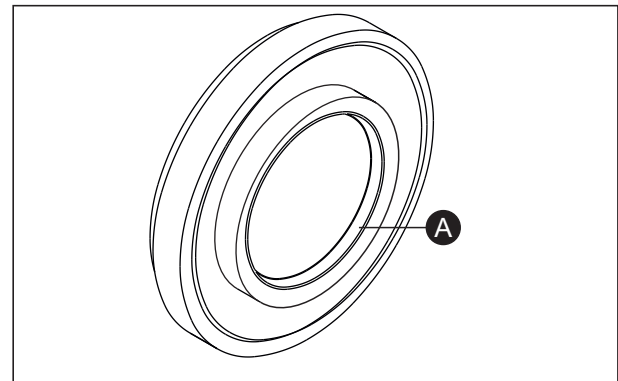

Fig. 3.169
- Damage to the oil seal lip (A) may result in leakage of oil. Inspect the oilseals for the damage of lip and always replace oilseals with the new ones during reassembly. (Fig. 3.169)